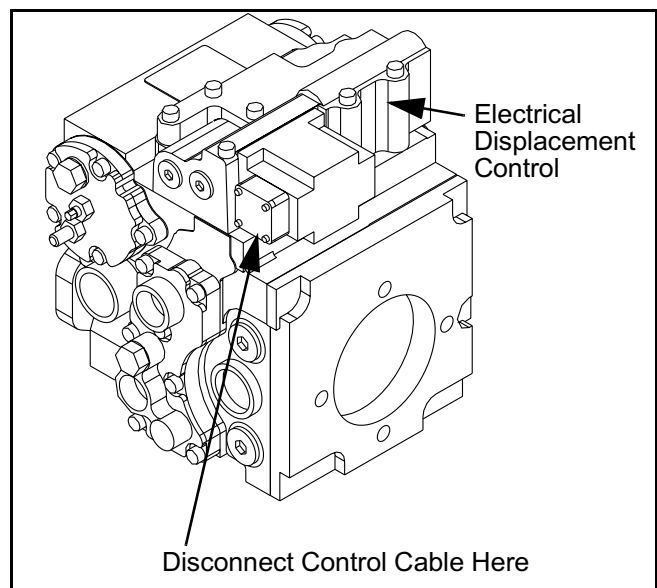

Figure 5 - 20 Electrical Displacement Control
- 8) Disconnect the Electrical Displacement Control at the pump controller. (Figure 5 - 20)